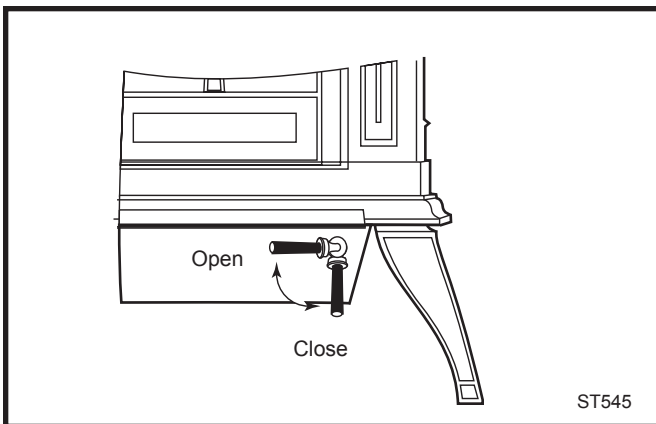

Fig. 39 Turn the ash door handle clockwise to open and counterclockwise to close.
- Close the griddle or doors, and unlatch the ash door. (Fig. 39) It will pivot, swinging the ash pan out of the stove.